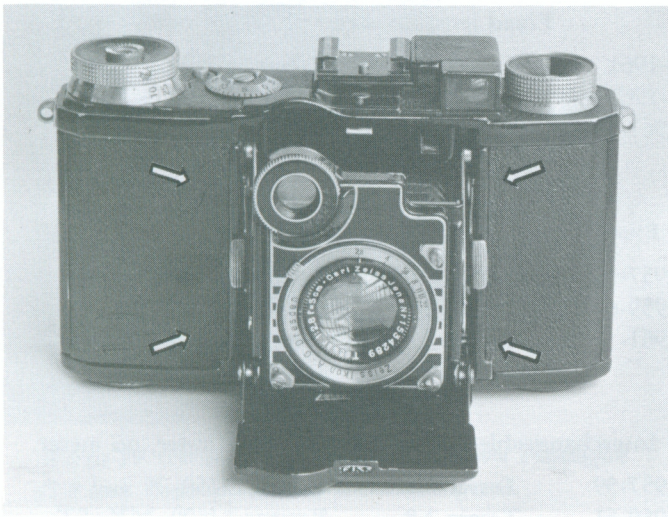

Figure 1.
reuse.) Peel the leather back far enough to clear the whole lens carriage plate. It's held in place by four screws whose positions are shown in Figure 1.
4. By unscrewing the four front screws shown in Figure 1 (watch out for any shims), the complete lens carriage with lens attached can be removed and put aside. To hold it closed, fold and secure with a rubber band. When reattaching this part, it is advisable to check the leveling of the lens carriage plate: the perpendicular relationship between optical axis and focal plane.